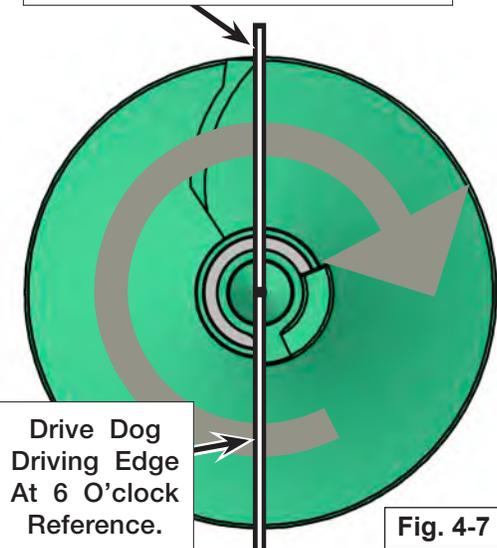
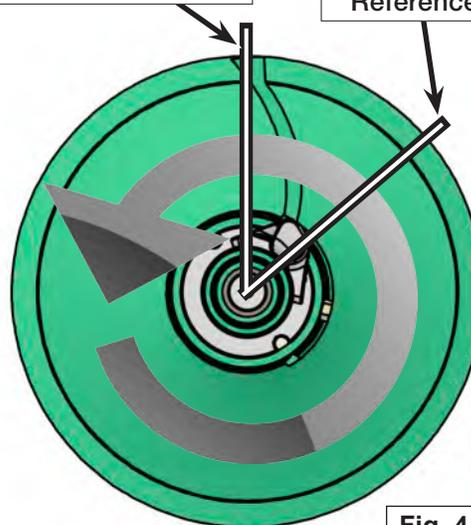

Fig. 4-7
Fig. 4-8
NOTE: Looking down at the lower flighting (as in Fig. 4-7) the auger rotation will be clockwise. When looking up at the upper flighting (as in Fig. 4-8) the auger rotation will be counter-clockwise.
2. For the upper auger, use the bottom edge of the flighting as a 12 o'clock reference. Position the driven edge of the drive pin at the 2 o'clock position. (Fig. 4-8)